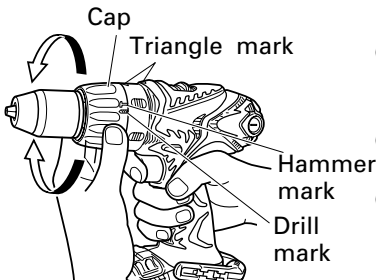

Fig. 23
9. Confirm the cap position (See Fig. 23)
### (2) Tightening torque indication (See Fig. 23)
### (3) Adjusting the tightening torque (See Fig. 23)